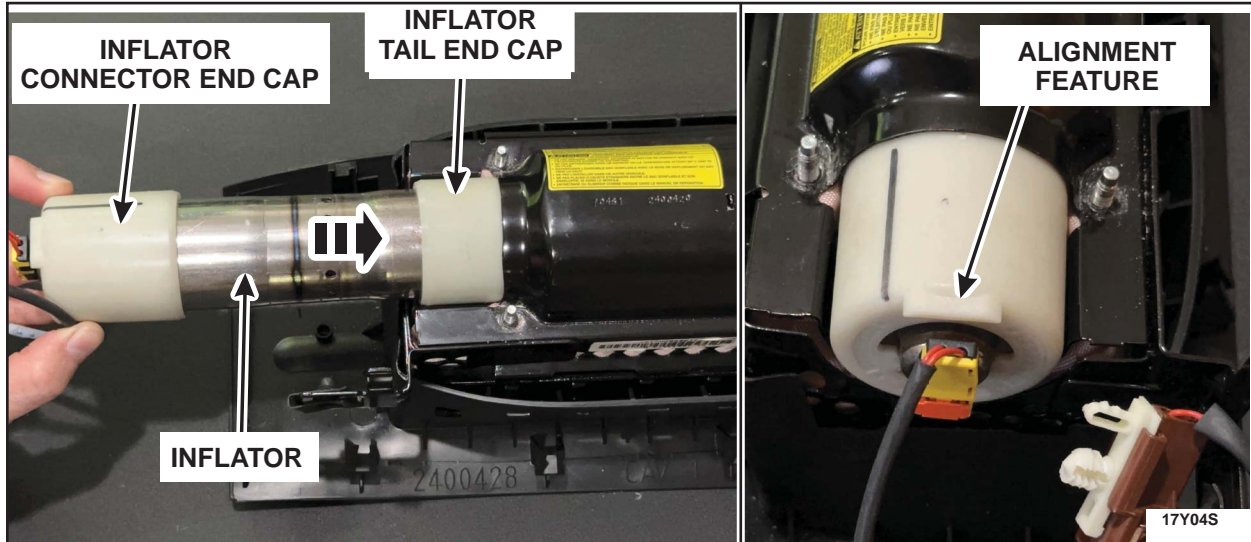

FIGURE 12
- **Alignment feature** must be **facing up** as shown in Figure 12.